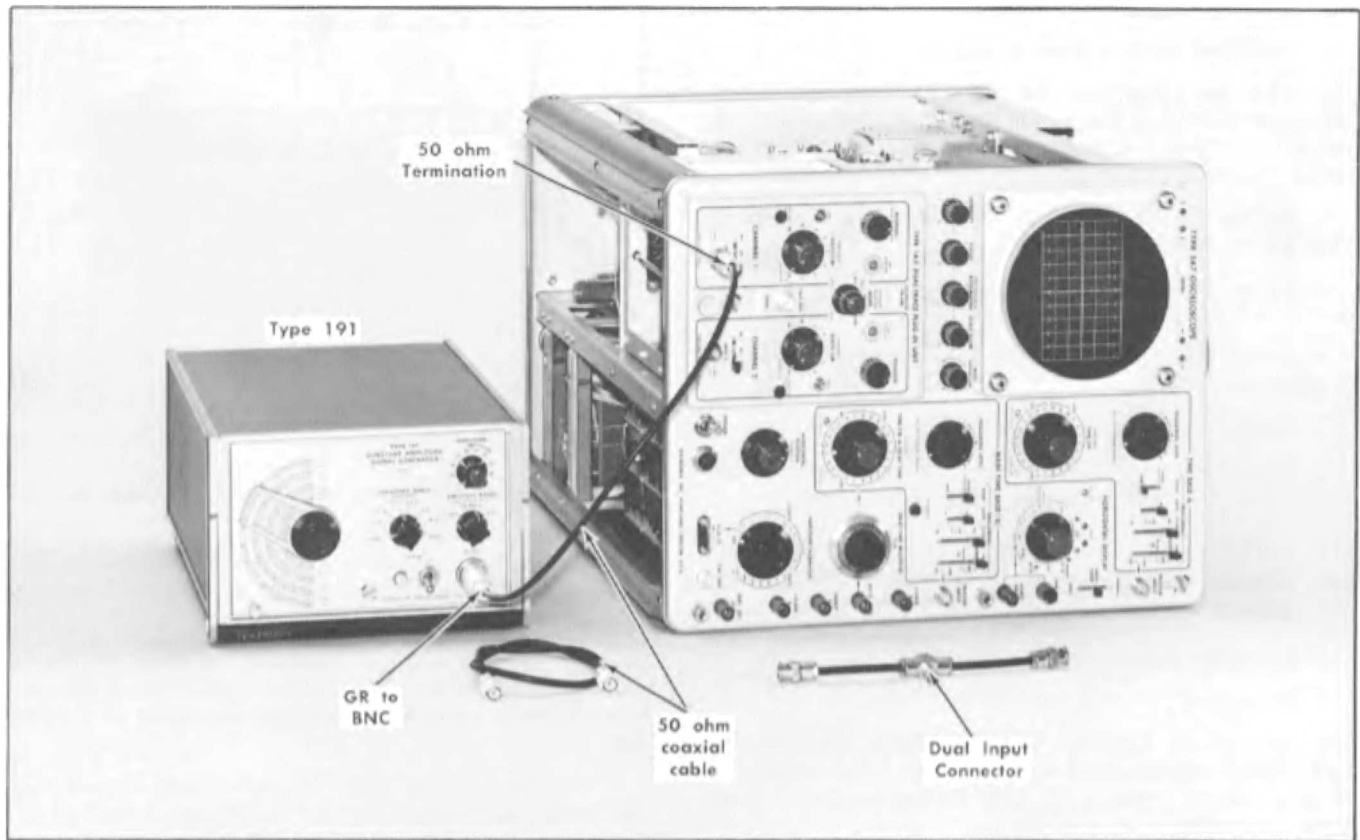

Fig. 7-16. Initial equipment setup for steps 21 through 23.
- Equipment setup is shown in Fig. 7-16.